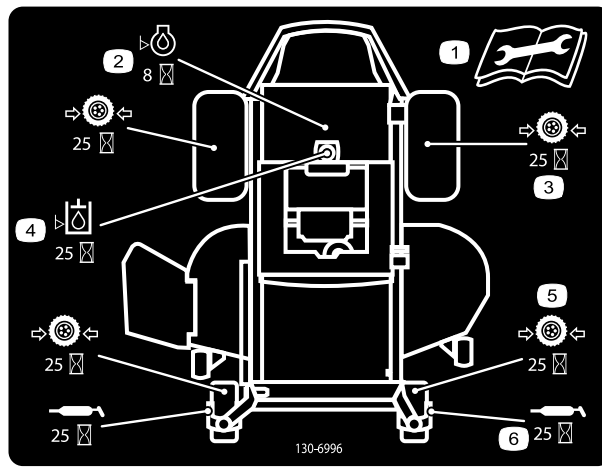

Figure 27
3. Clean the grease fittings with a rag (Figure 27 and Figure 28). Make sure to scrape any paint off of the front of the fitting(s).
4. Connect a grease gun to each fitting (Figure 28 and Figure 27). Pump grease into the fittings until grease begins to ooze out of the bearings.